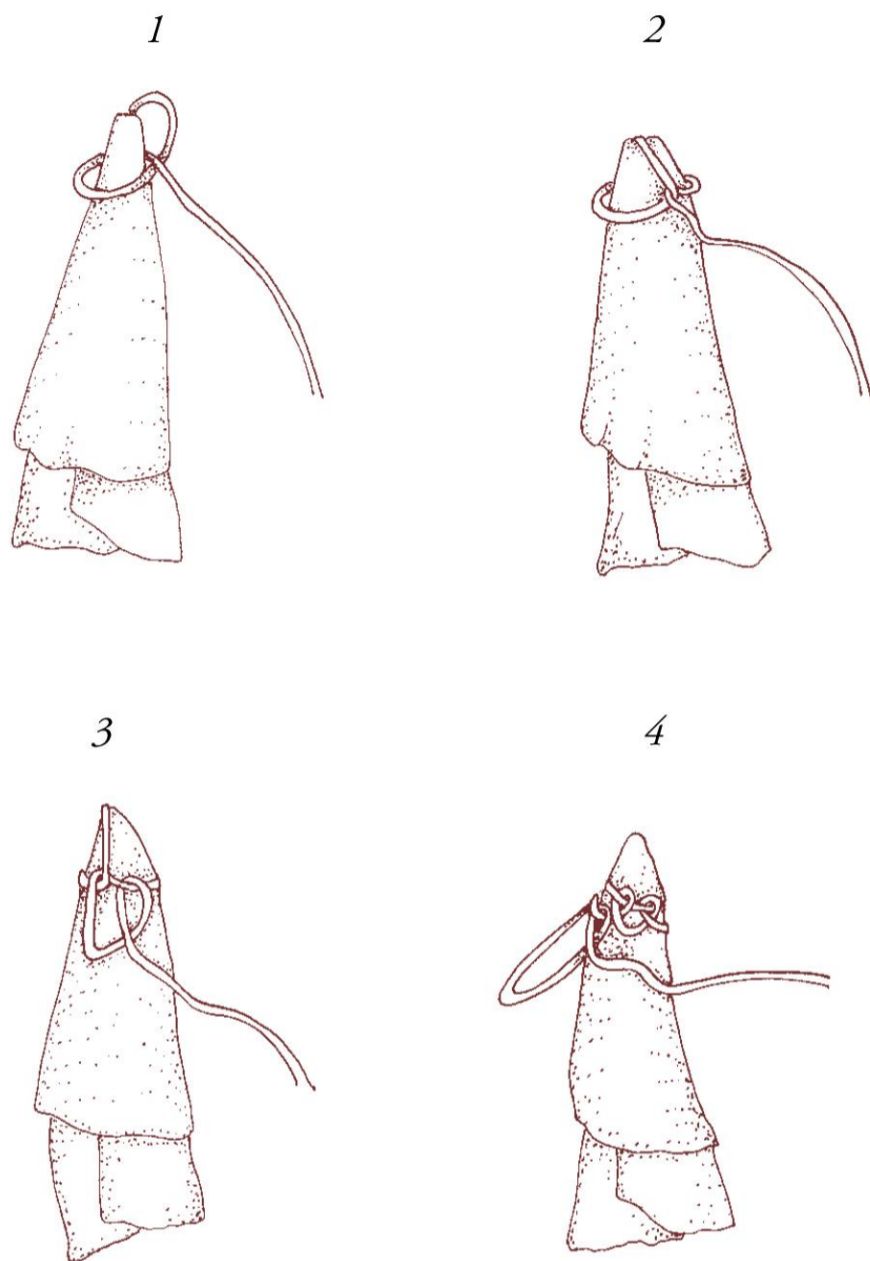

Figure 1
**8** After the cone is basically complete, begin the surface stitching. The 26-gauge wire now coming out of the top of the cone is secure. Use this as the stitching material. Wrap this length of wire around the outside of the top of the cone in one small circle. This first loop starts the process of looping on, and you build from there. Catch the beginning of the loop as shown to secure it. See figure 1 for the steps to begin the stitching.